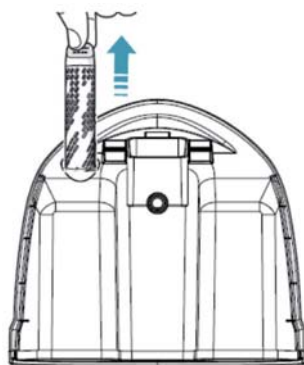

Fig.5
3. Replace the de-calc box: The de-calc box should be replaced if the appliance has been operated for 2 months. First of all, detach the water tank and pull the de-calc box out (see Fig.5). And then replace it with a new de-calc box. Finally, install the water tank well in position.